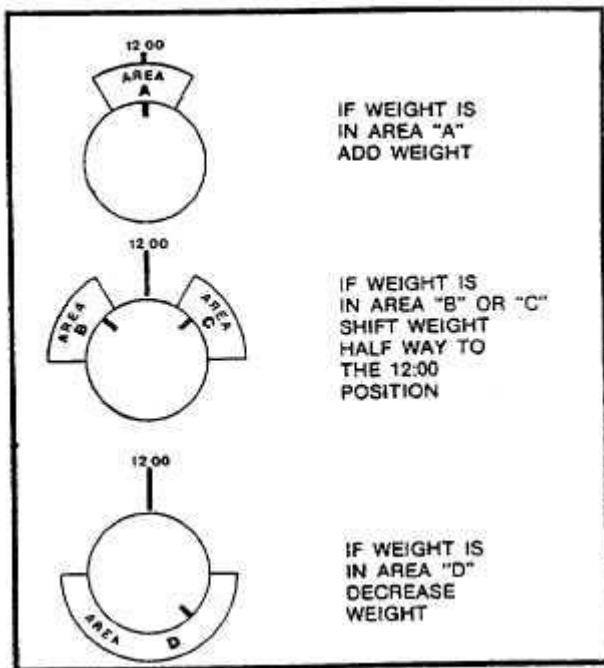

Figure 8. Weight Positioning and Movement
14. Repeat steps 8 through 13, except observe position of INITIAL WEIGHT, not reference mark. Refer to Figure 8 for amount of weight change and placement of weight.
NOTE : Make sure vibration pickup is still in contact with lower control arm after installing weights. Figure 8. Weight Positioning and Movement